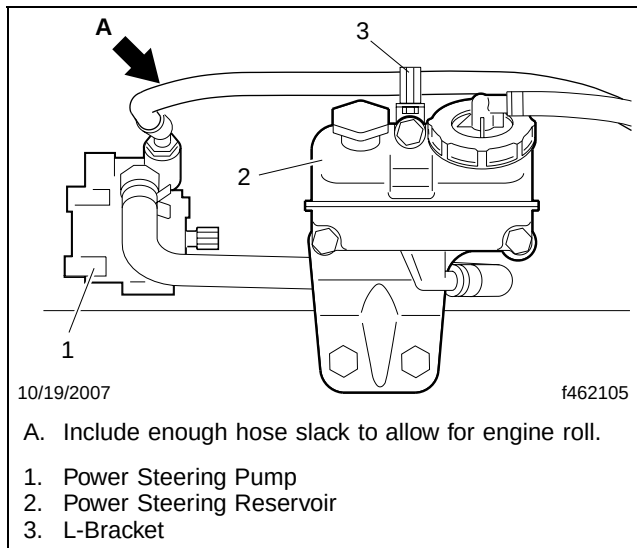

Fig. 5, Hose Routing To Pump (S60 Shown)
26. Install and route the new pressure line from the frame-mounted hose bracket to the pump, and include extra hose between the L-bracket on the top-mount of the reservoir and the pump to allow for engine roll. See **Fig. 5**. Tighten the fitting 42 to 52 lbf·ft (57 to 70 N·m).
29. Using hose clamps, install the new power steering pump suction line on the reservoir and pump. See **Fig. 5**.